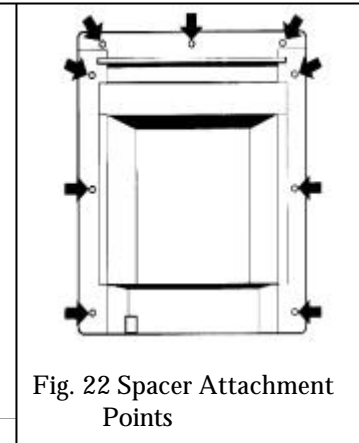

Fig. 22 Spacer Attachment Points
7.2.1 There are 9 indented positions on the front flanges of the convection box. Drill a 5.5mm hole through each indent (see figure 22).